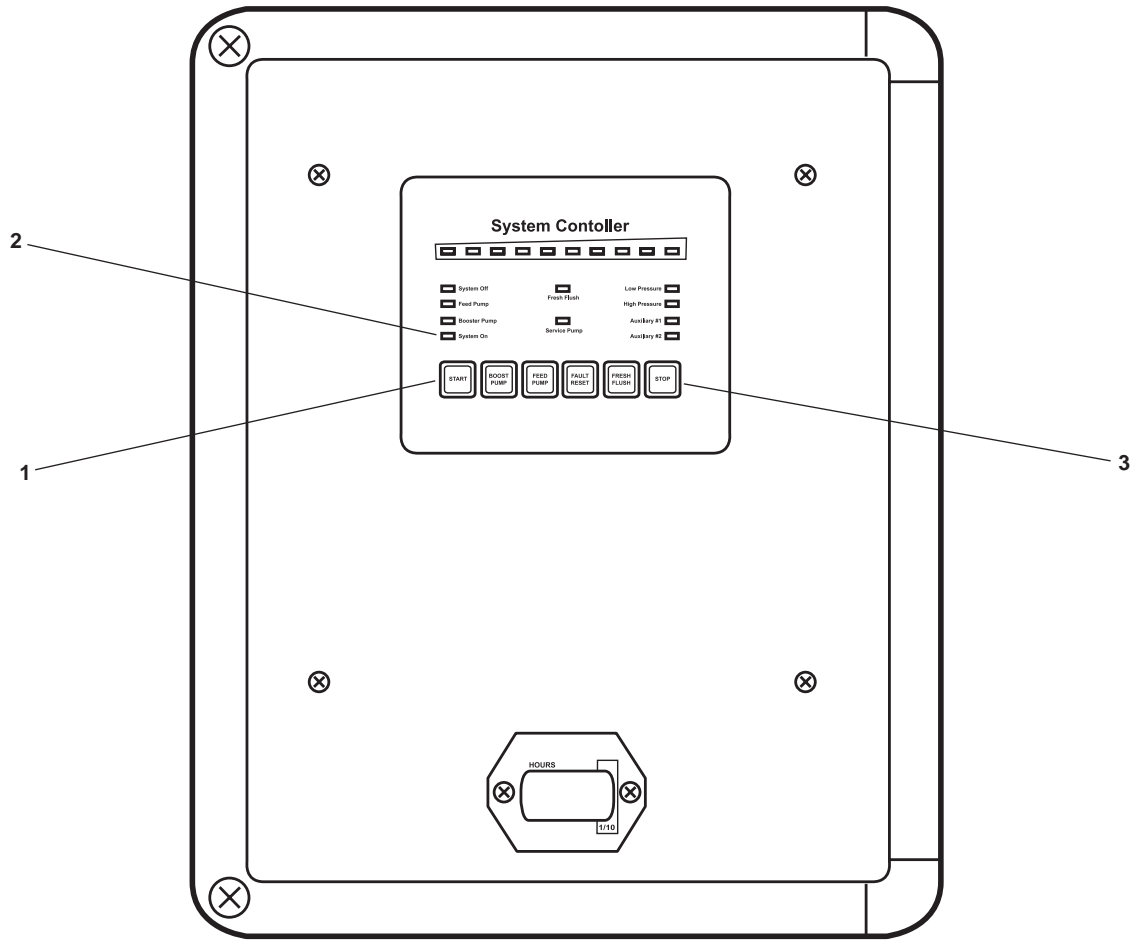

Figure 11. System Controller
13. At both system controllers, press the START switches (figure 11, item 1).
14. Verify that the SYSTEM ON indicators (figure 11, item 2) illuminate, and that both high pressure pumps start.
17. At both system controllers, press STOP (figure 11, item 3).